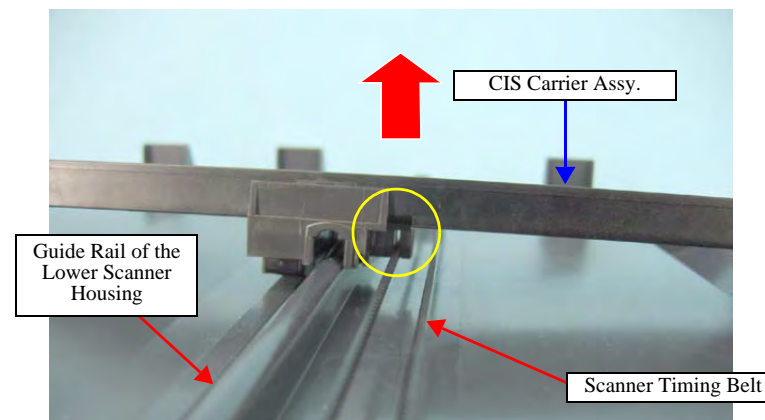

Figure 4-98. Removing CIS Carrier Assy.
- When installing the CIS Carrier Assy., put the Scanner Timing Belt through the slit of the CIS Carrier Assy. (refer to Figure 4-98)